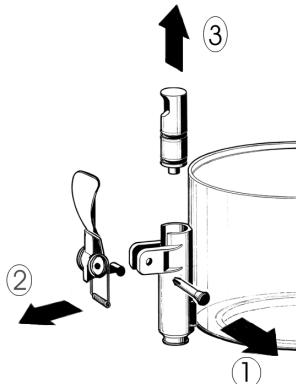

figure 1
- 3** Dismantle the faucet following the sequence shown (see fig. 1)
- 3** Reassemble the faucet assembly on the container in the opposite way to which it was dismantled (see fig. 1).